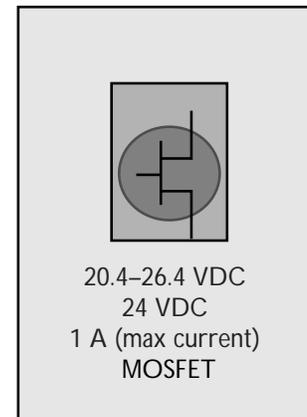

Figure 2-22. Transistor output.
**Transistor Outputs. Transistor outputs** (see Figure 2-22) are used only with output devices that require a 20.4–26.4 VDC control signal from the PLC. A transistor output is most commonly used with 24 VDC devices. A transistor's maximum current at the output is 1 A. In a MicroLogix 1000, a transistor output is sometimes called a MOSFET, which is an acronym for metal-oxide semiconductor field effect transistor.